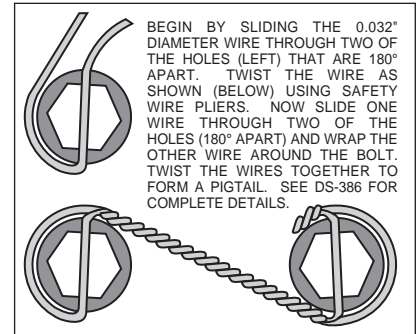
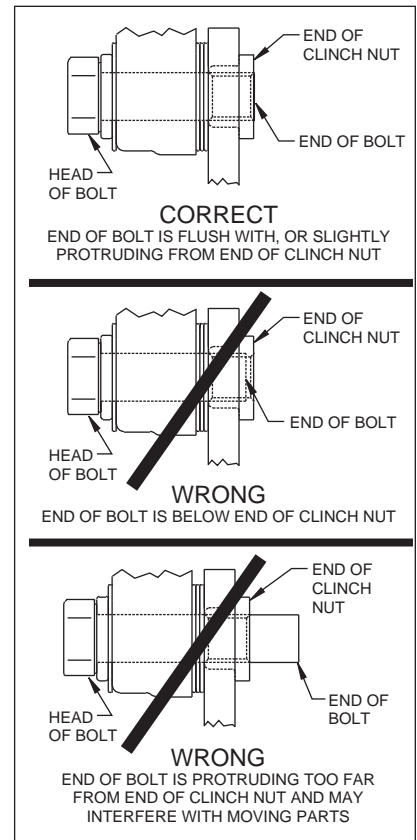

Figure 3. Safety Wire Diagram
Figure 4.
- Make sure this is the correct kit to fit the axle housing flange, not necessarily the rear end make. Many times after market manufacturers put a different make of axle housing flange on the stock rear end housing (see Figure 4). Example; Big Ford rear ends with Olds-Pontiac flanges, therefore, an Olds-Pontiac rear disc brake kit would be the correct kit to order.
- Bolt the hat (2) to the rotor (3) using washers (4) and bolts (5). Torque bolts (5) to 180 in-lb. Safety wire bolts (5) using standard 0.032 inch diameter stainless steel safety wire as shown in Figure 3. Please refer to Wilwood's data sheet DS-386 (available at www.wilwood.com/Pdf/DataSheets/ds386.pdf) for complete safety wire installation instructions.
- Align the hole pattern in the hat (2) with the stud pattern on the axle flange. **NOTE:** Some OEM and after market axles come with stud sizes larger than 0.50" diameter. Verify stud size and have a qualified machine shop drill the hats to the correct size. Slide the hat/rotor assembly (2 and 3) over the wheel studs and against the axle flange face.
- **NOTE:** Please reference the caution statement at the beginning of the assembly instructions. WITH THE BLEED SCREWS POINTING UP, mount the caliper (6) over the rotor (3) and onto the caliper mounting bracket (1) using washers (7) and mounting bolts (8). View the rotor through the top opening of the caliper. The rotor should be aligned in the center of the caliper. If not, adjust the caliper by using 0.032 inch shim washers (9), placing them between the caliper mounting bracket (1) and the caliper (6). Add as many shim washers (9) as necessary to achieve the correct alignment. **NOTE:** The end of the bolt must be flush with or slightly protruding from the head of the clinch nut. See Figure 4. Place spare shims (9) between washer and caliper mounting ear to achieve the proper mounting fastener configuration. Always use the same amount of shims on both the top and bottom caliper mounting bolts (8). Apply red Loctite® 271 to the mounting bolt threads (8), torque bolts to 30 ft-lb. Safety wire the caliper mounting bolts (8).
- Position the Wilwood disc brake pads (10) into the caliper (6) and fasten with cotter pin (11). Steel backing plate side of brake pad should face the caliper pistons.